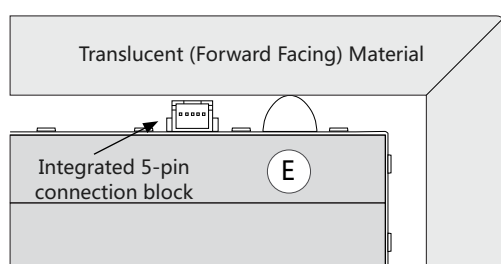

Figure 4
Domed spacing bumpers (E): The domed spacing bumpers (E) included with each Light Sheet have been engineered to bear the weight of translucent materials in horizontal applications and act as a safeguard in vertical applications so that the forward facing material does not harm the 5-pin connection blocks nor the LEDs. recommends using eight bumpers per Light Sheet (approximately six per square foot), spacing them evenly to distribute the weight of the forward facing material (see Figure 4) and to add a level of protection in vertical applications when the forward facing material will be positioned near the Light Sheet (see Figure 5).